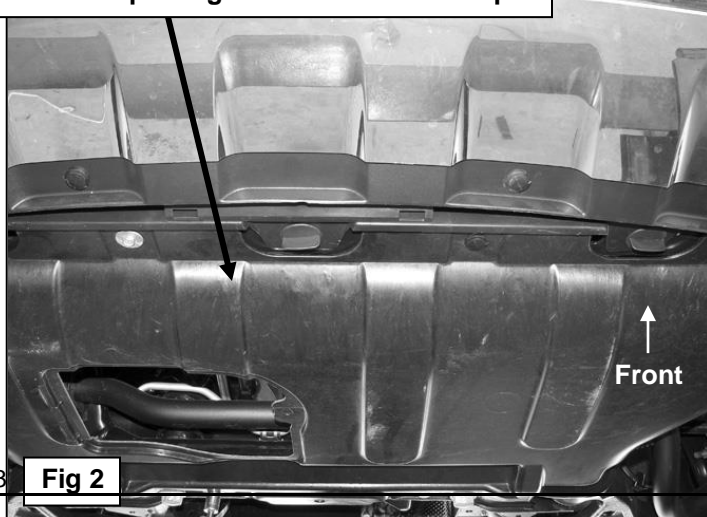

Fig 1
- Determine if the vehicle is equipped with or without factory tow hooks, **(Figure 1)**. Remove the plastic splash guard under the front bumper cover, **(Figure 2)**.